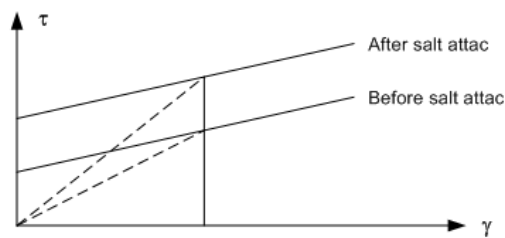

Figure 1-6. Clay behavior.
- e) From Figure 1-6 we see that a viscosity of max. 50 cP will correspond to 7.5 w % of Bentonite.
- d) Figure 1-6 shows both how a Ca-attack is changing the dispersed mud, but also how Gyp mud is made. Bentonite is composed mainly of the mineral called Montmorillonite. It is an aluminium silicate in which the silicon-oxygen sandwich is a layer of aluminium hydroxide. Some of the aluminium in the lattice structure is, during creation, replaced by ions of a lower charge (lower electron valence) such as magnesium (from 3 to 2). The *substitution*, without any other change of structure, creates negative surface charges in the lattice.